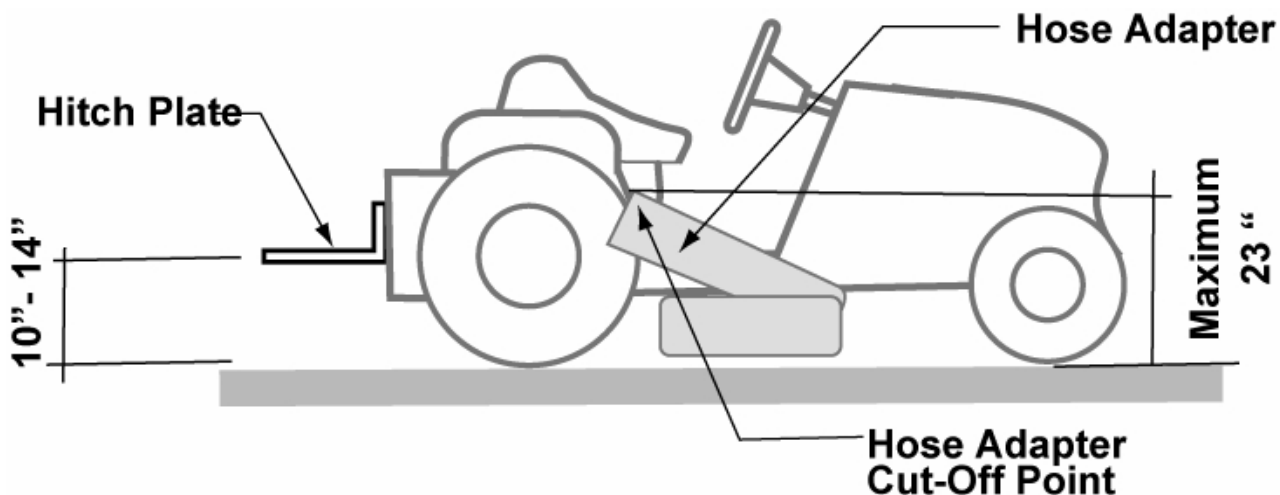

Figure 20
1. Mark the distance of approximately 23" from the ground to the top surface of your lawn deck adapter exit tube (*Figure 20*).
2. Remove the lawn deck adapter from your lawn tractor and using a saw, cut the exit tube of the lawn deck adapter at 90° (*Figure 20*).